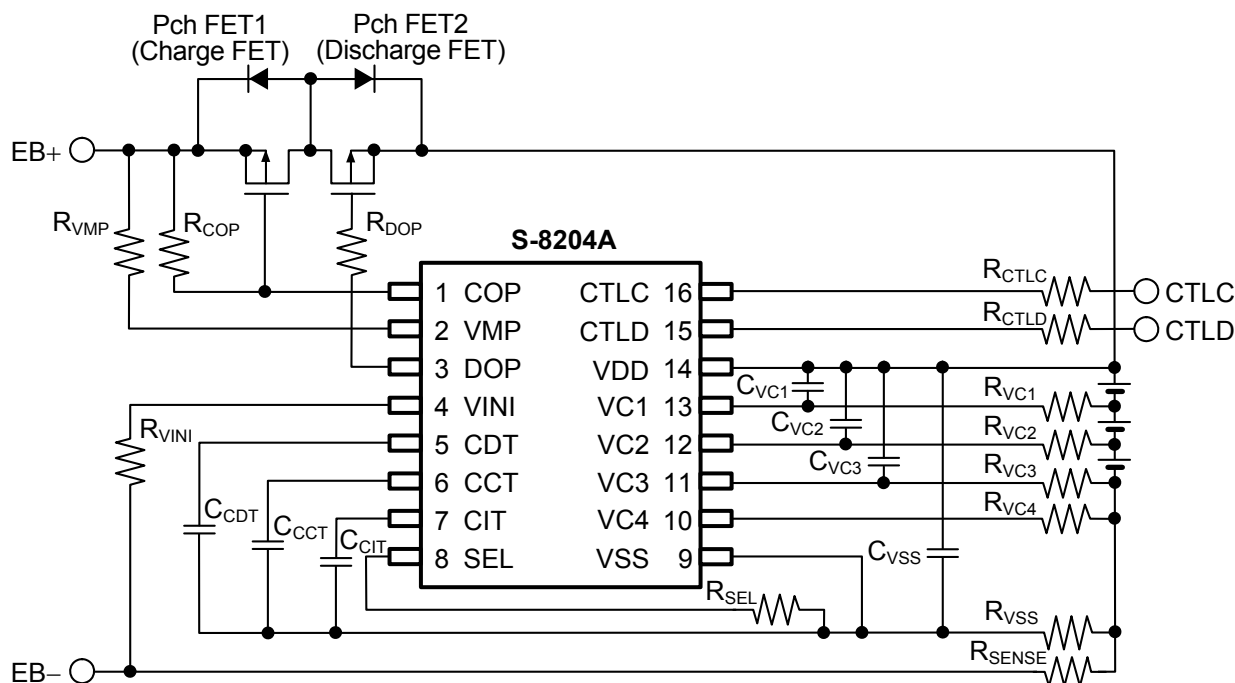
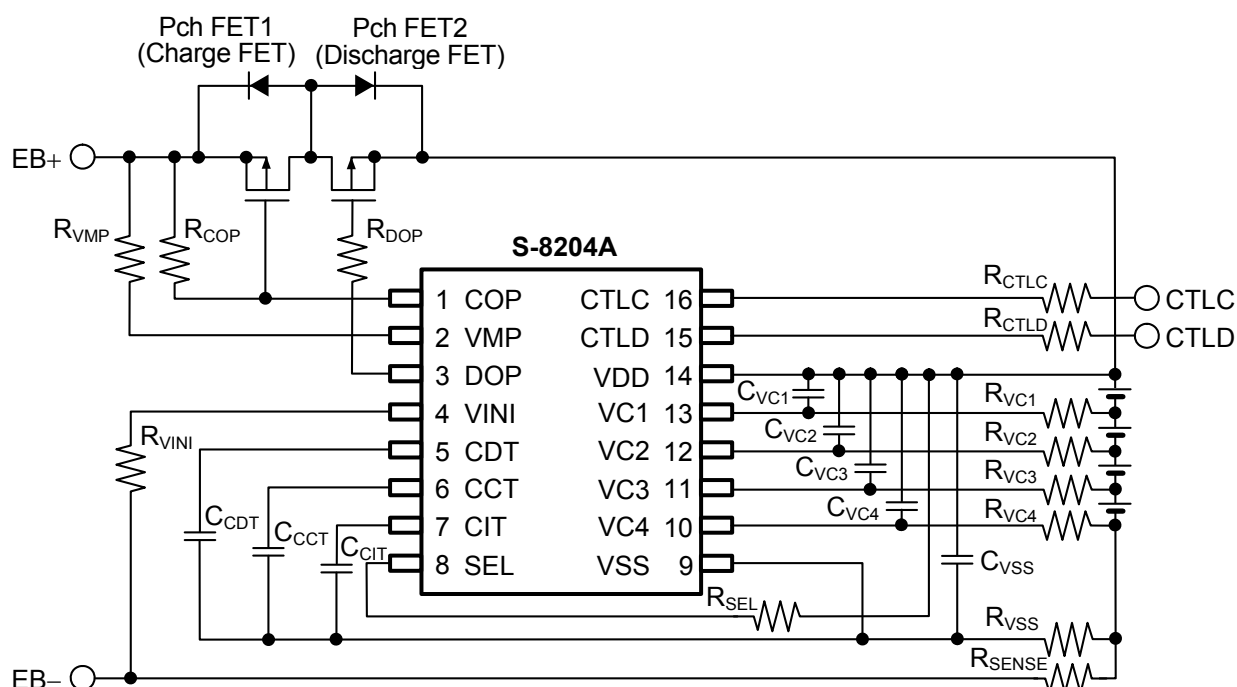

Figure 12
Figure 13
■ **Timing Chart (Circuits in Figure 12, Figure 13)**
Table 10 Constants for External Components (Circuits in Figure 12, Figure 13)